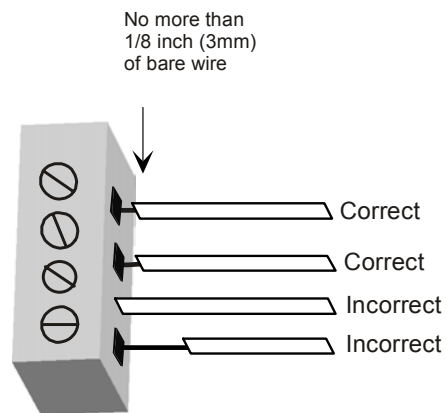

FIGURE 3. CONNECTING THE SCREW TERMINAL BLOCK
- Strip about 1/4 inch (6 mm) of the inner insulation from each wire. When you insert the wire into the connector, do not allow more than 1/8 inch (3 mm) bare communication wire to protrude. See Figure 3.